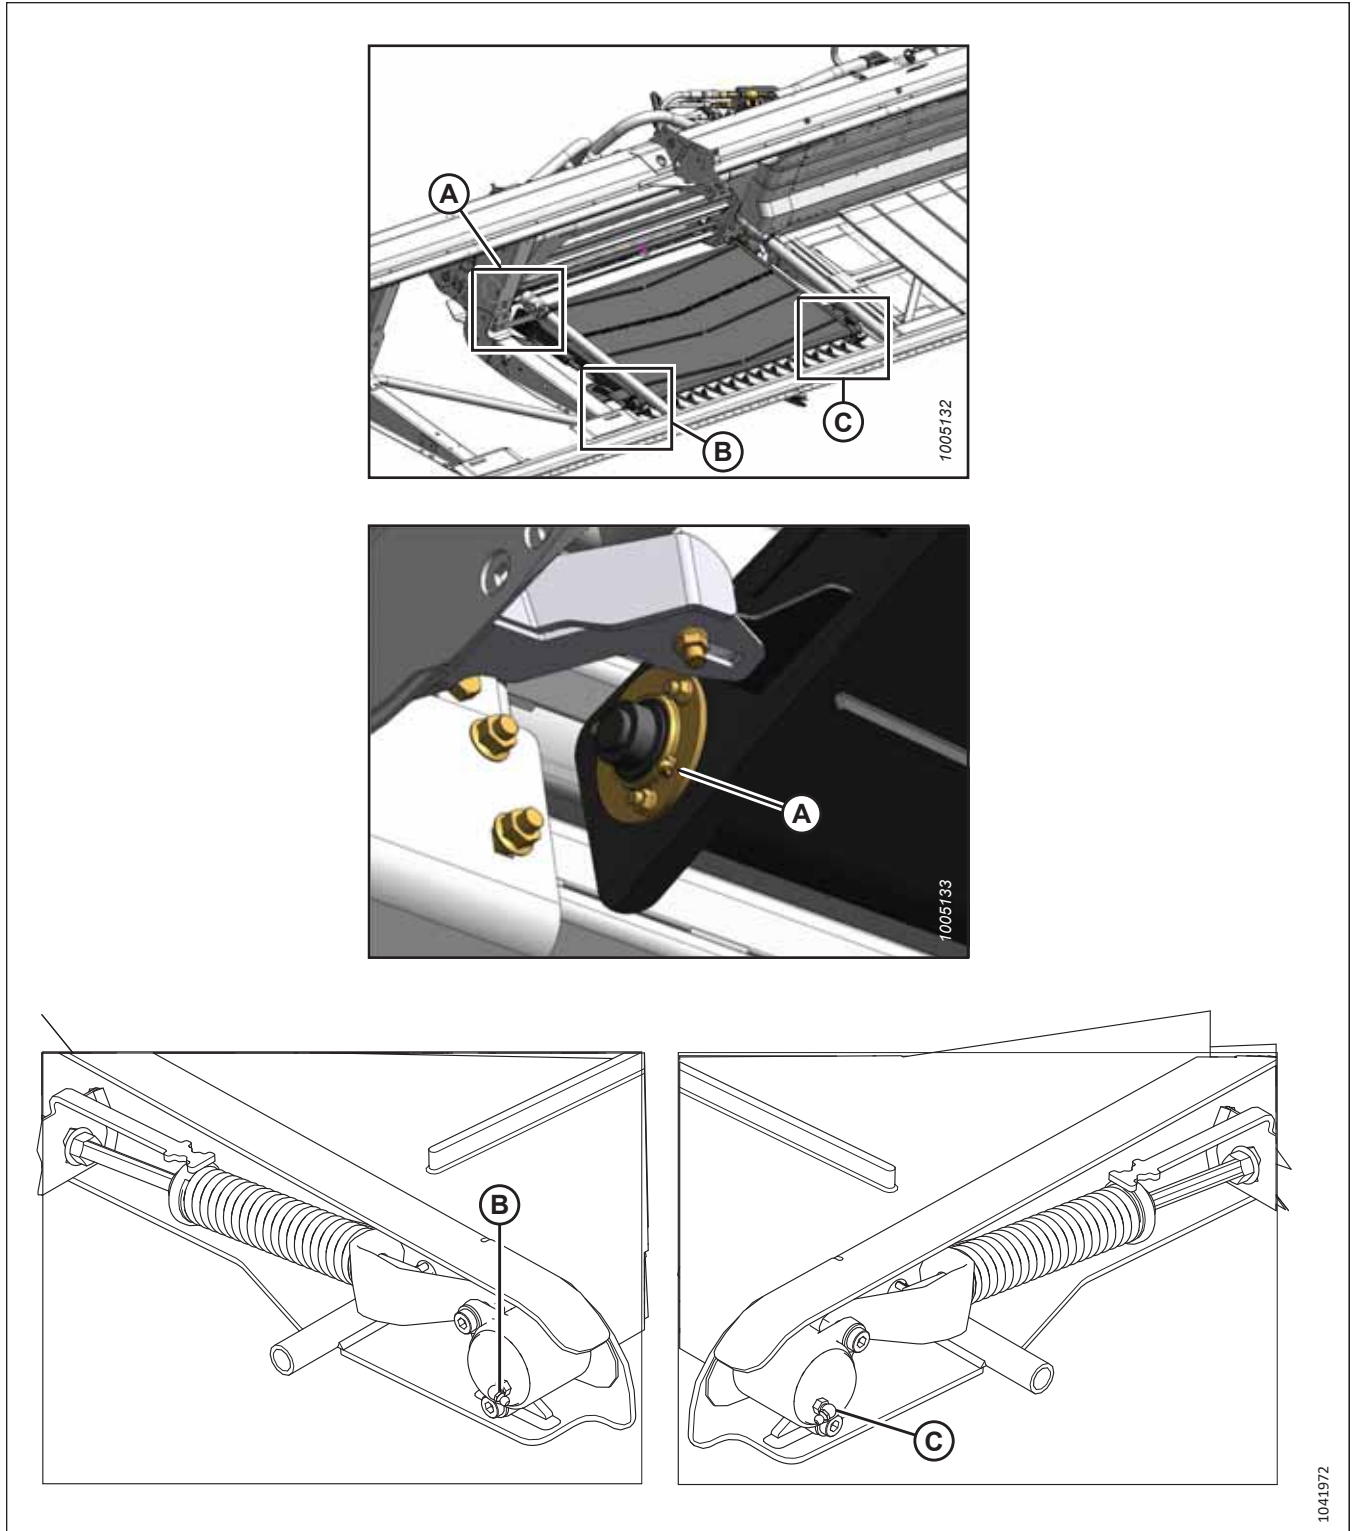

Figure 3.89: Lubrication Points
2. Add grease to each of the fittings listed in Figures 3.89, page 61 and 3.90, page 62. To add grease to a fitting, follow this procedure: